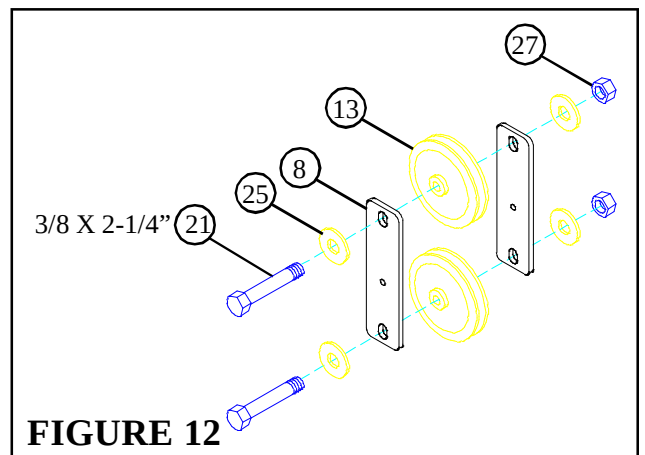

FIGURE 12
- **LOOSELY** assemble two 2 X 7-1/4" PLATES (8) to two 4-1/2" PULLEYS (13) using two 3/8 X 2-1/4" BOLTS (21), four 3/8" WASHERS (25), and two 3/8" LOCK NUTS (27). See FIGURE 12.